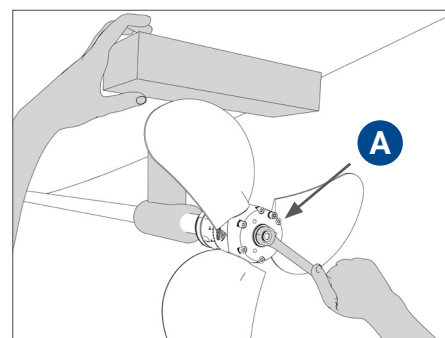

FIG. 14 | Lock rotation and tighten the lock nut
- To avoid bending the propeller blades when turning, make sure you turn the blades in the thrust position (not in the feathering position), and lock the rotation with a wooden wedge, to be placed between the blade and the hull (**Fig. 14**).
- Tighten the lock nut **A** (**Fig. 14**) applying an appropriate tightening torque (depending on the type of nut, as recommended in the TABLE OF TIGHTENING TORQUES). When tightening, take care to move the blades and gradually tighten the nut until the specified tightening torque is reached.